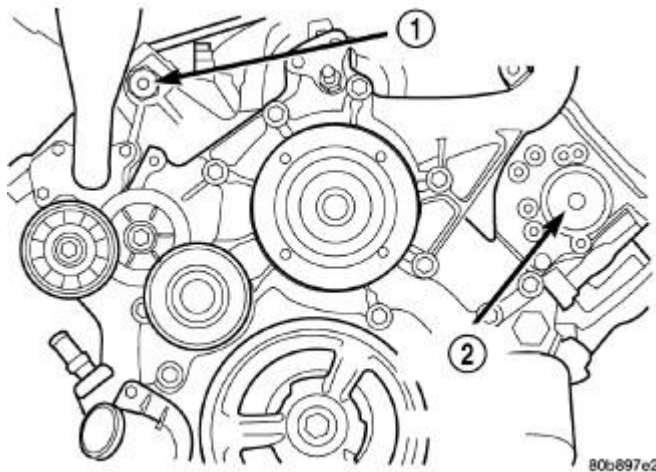

Fig. 52: Access Plugs From Left And Right Cylinder Heads
18. Remove the cylinder head access plug (1, 2). Refer to **Fig. 52**.